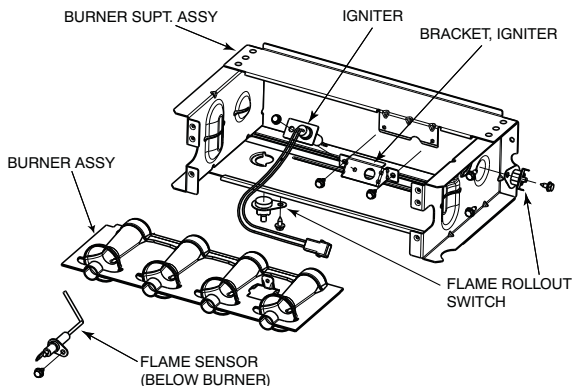

Figure 3 – Burner Assembly
1. Refer to **Figure 2** and **Figure 3**.